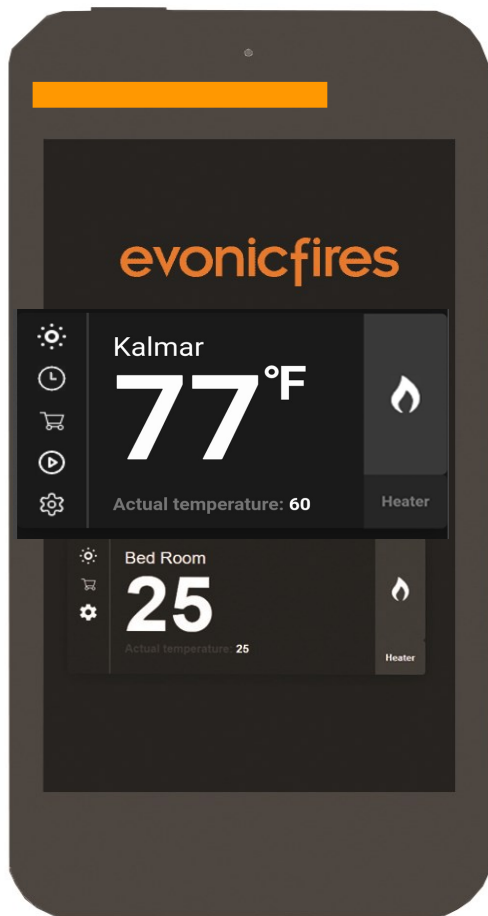

Fig 5.
4. You will be brought to the home page (Fig 5), From there you can start controlling your fireplace. (Fig 6)